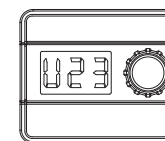

Fig. 46
7.3.1.2 - The glow plug will start to work in about 2 seconds. The fuel pump will start pumping fuel in about 1 minute and 30 seconds. The screen displays voltage U8V - U16V (for 12V) or U18V - U32V (for 24V) (See Fig 46).